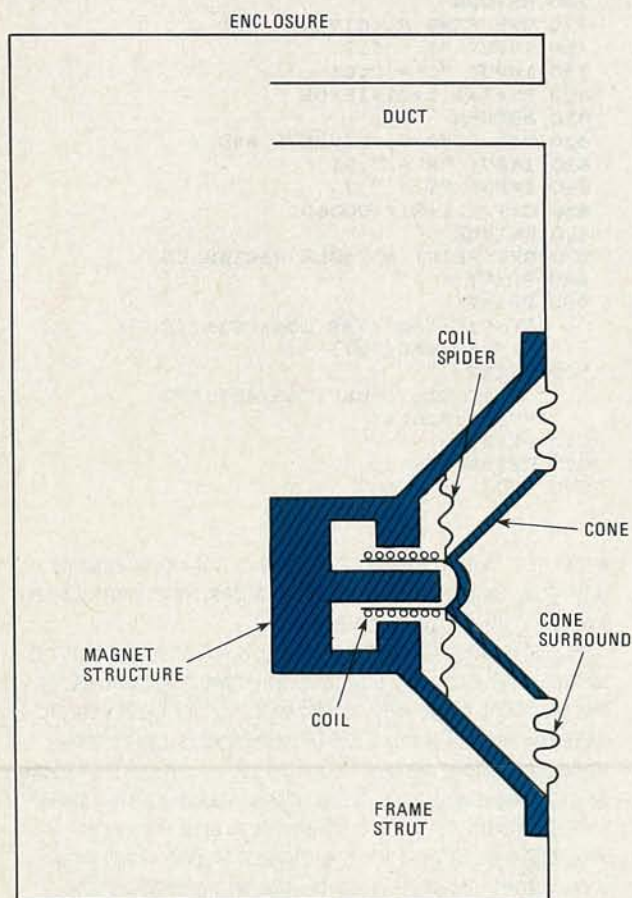

FIG. 1—CROSS SECTION of a dynamic woofer mounted in a ducted port enclosure.
■The most-complex system is the ducted port enclosure. The other systems can be thought of as simplifications of this type. Figure 1 shows a cross section of a dynamic loudspeaker mounted in a ducted port enclosure. When driven at low frequencies, the behaviour of this system is simpler than it is at higher frequencies. The cone moves as a single, rigid mass. All the air inside the duct moves in
FIG. 2.—MECHANICAL SYSTEM, equivalent at low frequencies, to the speaker shown in Fig. 1. Cone mass and the mass of air are assumed to move only in one direction, indicated by arrows. Coil applies oscillatory force to cone in this direction. Dampers are sources of mechanical resistance. One end of each damper and mounting spring has a fixed point of attachment.
FIG. 3—ELECTRICAL CIRCUIT analogous to systems in Figs. 1 and 2. Corresponding parameters are:  $R_1$  = Coil resistance,  $C_1$  = Mass of cone and co-moving air,  $L_1$  = Compliance of cone mountings,  $G_2$  = Mechanical resistance of cone mountings,  $G_3$  = Radiation resistance of cone,  $L_2$  = Compliance of enclosure volume,  $RP$  = Port (duct) radius,  $RS$  = Speaker radius,  $C_2$  = Mass of air in duct and co-moving air,  $G_4$  = Mechanical resistance,  $G_5$  = Radiation resistance of duct.